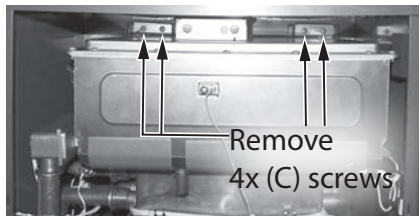

Figure 154 - Removing secondary HEX (C) screws
46 Locate the two brackets and four (C) screws securing the secondary heat exchanger assembly to the backside of the water heater cabinet as shown in Figure 154. Use a 12" magnetized Phillips screwdriver to remove the screws. Place them aside in a safe place for reinstallation.
74 Locate the four secondary heat exchanger mounting screws previously removed in **Step 46**. Use a 12" magnetized Phillips screwdriver and four screws to secure the heat exchanger to the water heater cabinet. See Figure 154.